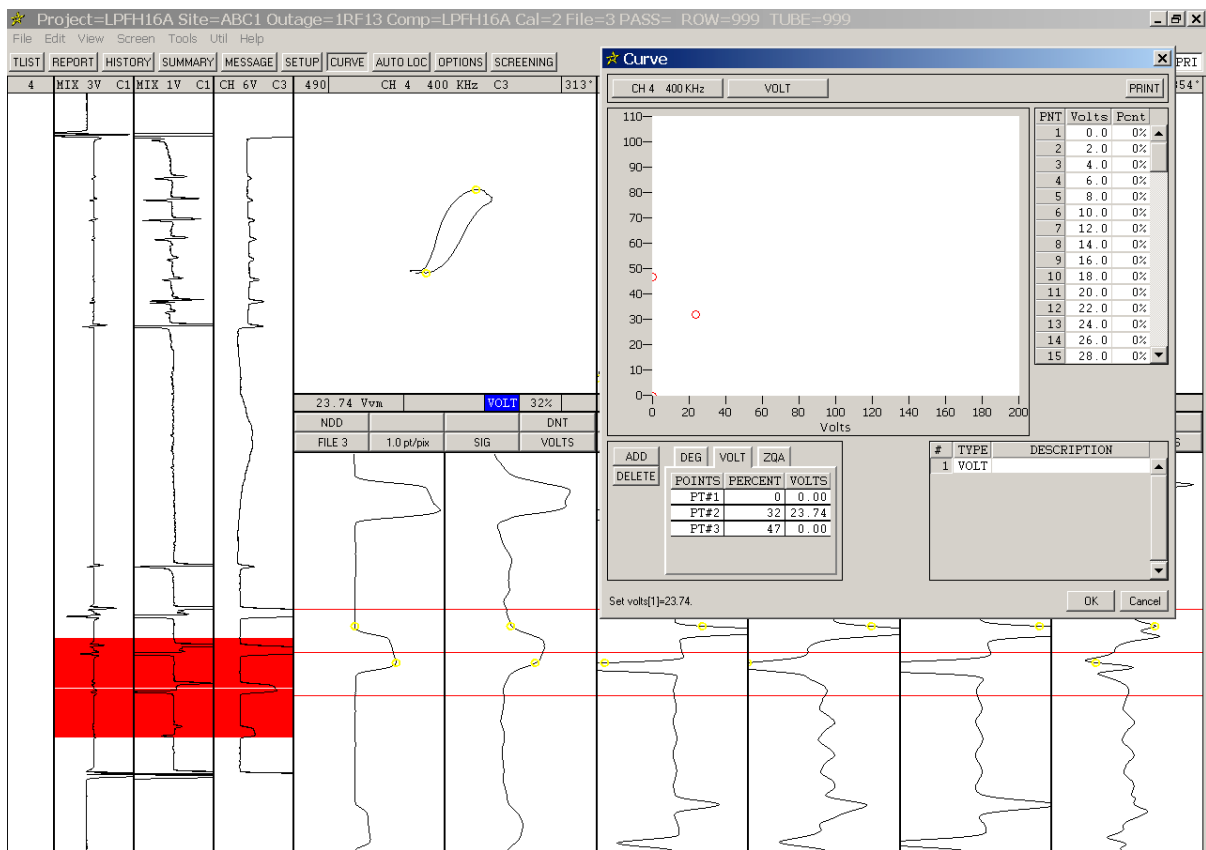

Figure 1-22. Analysis Screen - Curve Dialog - Entering the As-Built Depth and Volts Measurement of a Calibration Flaw
- STEP 24:** Click in the **Volts** field for **PT#2** on the **VOLT** table. The **Vvm** measurement (~23.74) for **CH 4** is automatically entered in the field as shown in Figure 1-22.